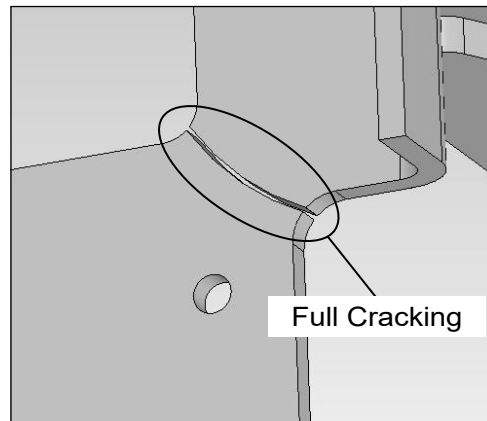

Figure 3 – Full Cracking Example
- Full cracking means a visible crack across the full width of the narrow section extending through the full thickness of the plate and causing the complete separation of the material (refer to Figure 3).